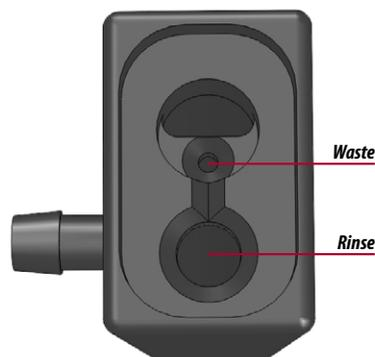

Figure 4. Align the Rinse and Waste sections so that the sipper tube goes directly down the center of each.
- Adjust the X and Y parameters to ensure the sipper tube goes directly down the center of the rinse and waste sections of the wash station (**Figure 4**). Be sure to calibrate the centered sipper tube at both the **Top** and **Bottom** positions.